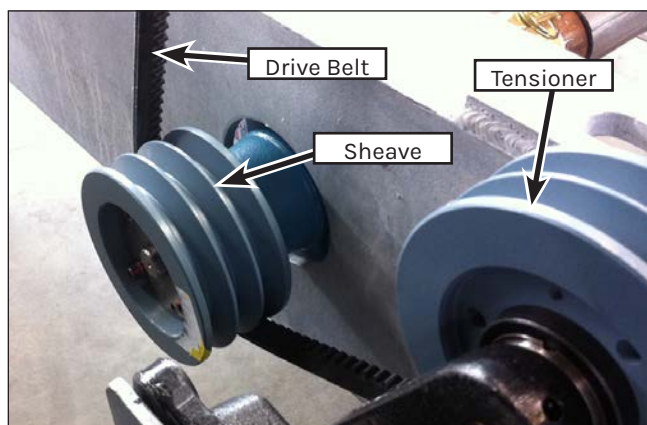

Figure 144: Charge Pump Drive.
5. Remove the charge pump drive belt (Figure 144) by releasing the belt tension using the spring loaded tensioner.
2. Place the sheave bushing in place and install the set screw. Install the sheave onto the bushing. Check for proper belt alignment (Figure 144).